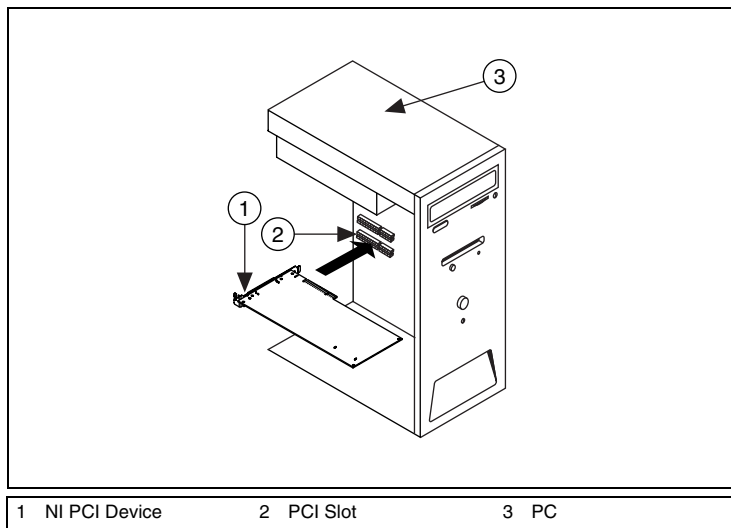

Figure 2. PCI Installation
- Insert the device into an open PCI slot, as shown in Figure 2.